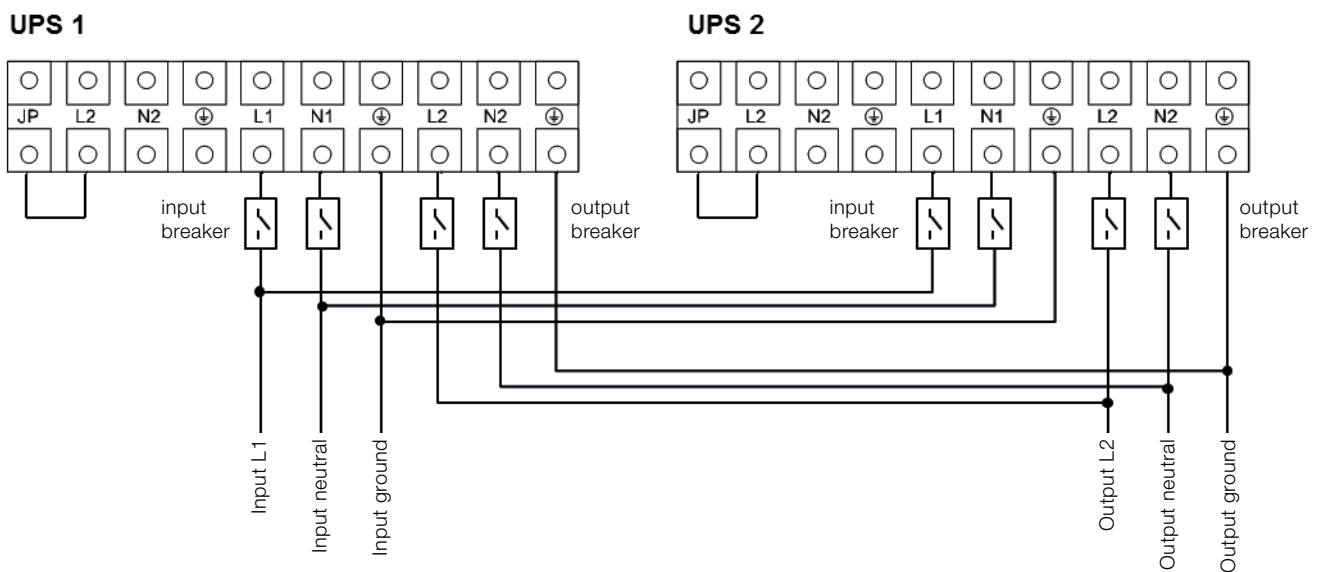
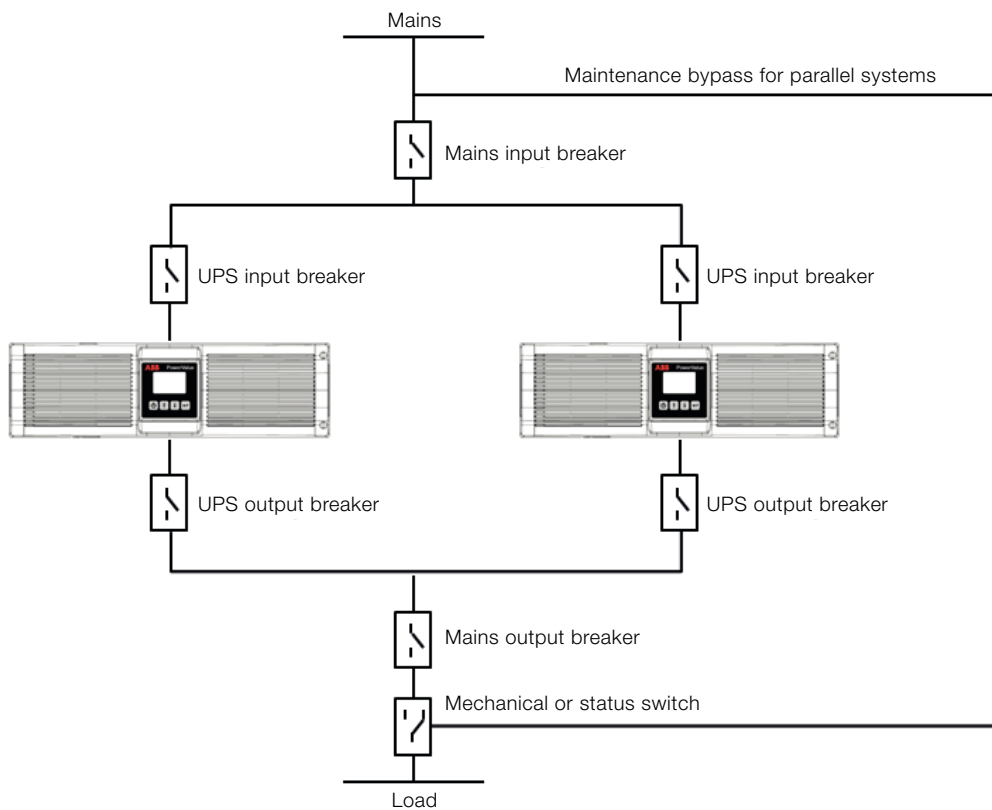

Figure 27: Parallel system wiring diagram – PowerValue 11 RT 6kVA and 10kVA
Figure 28: Parallel system installation diagram
4. Connect the input and output wires as shown in Figure 27. Note that all breakers should be opened.
6. Connect the cable and wire of the added UPS as shown in Figure 27 and Figure 28.